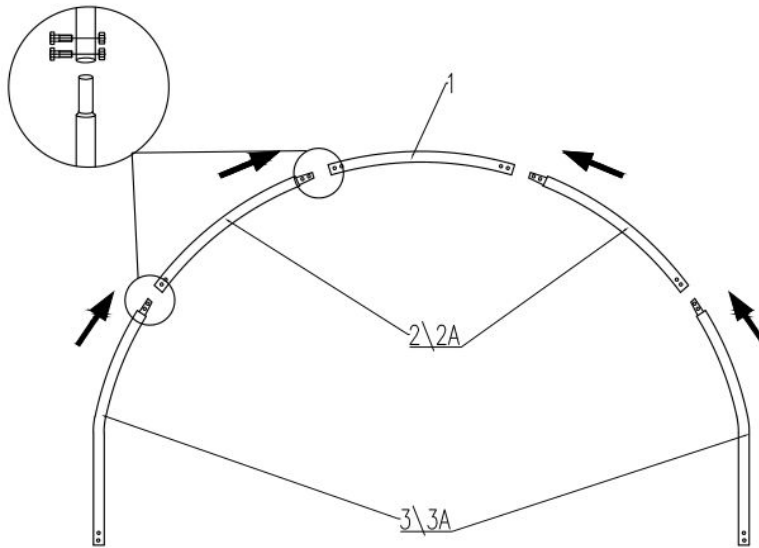

Figure 4
1. As Figure 4 shown to find one Roof Bent Tube (No.1), two Middle Bent Tubes for doors (No. 2), Lower Bent Tube (No. 3) and assemble every group arch with Screw M8x70 (No.20). DO NOT install the screw on the top of the truss where the fabric will rest.